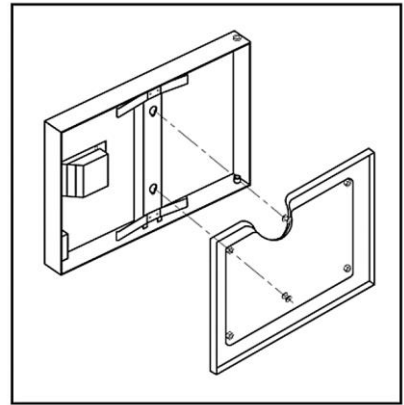

Figure 6-1
- a) Remove the door gasket assembly. See Figure 6-1.